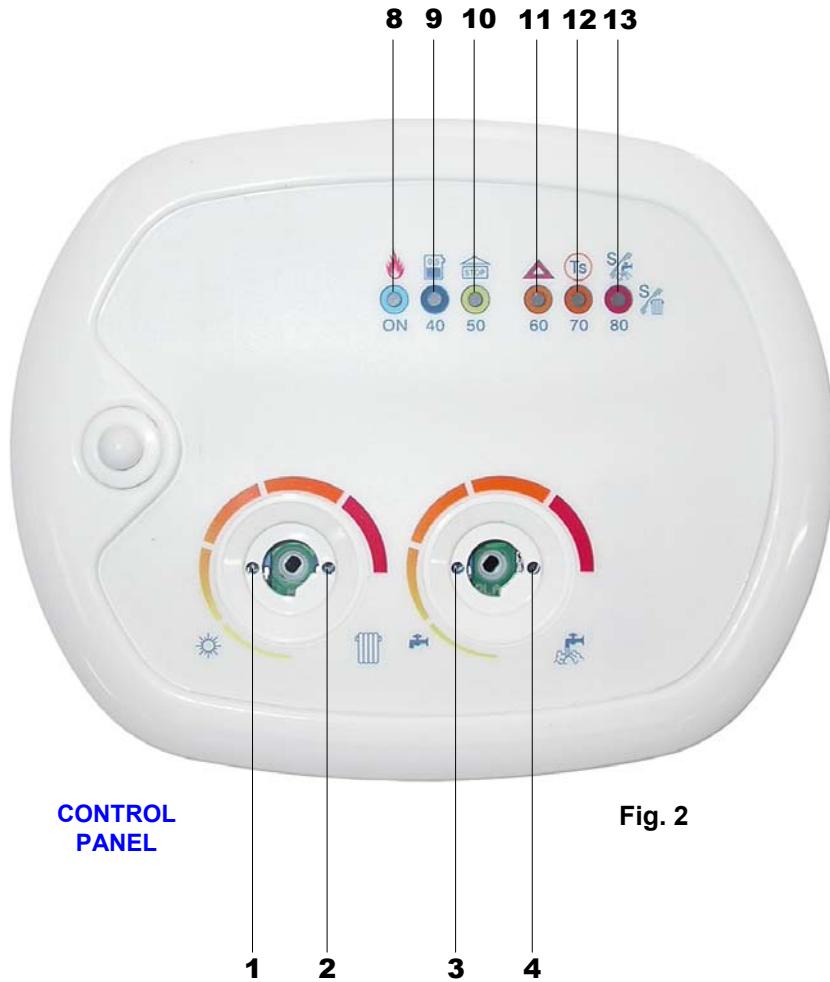

Fig. 2
- Use a $\varnothing 2.5 \div 3$ mm cross-type screwdriver and turn “maxR” **1** potentiometer (fig. 2) clockwise to the maximum;
- Keep **4** potentiometer (chimney sweeper function) (fig. 2) pressed for 10 seconds;
- Turn “maxR” **1** potentiometer (fig. 2) counter clockwise to the minimum;
- Turn **2** potentiometer (minimum gas) (fig. 2) clockwise to increase or counter clockwise to decrease the gas pressure;
- Turn **3** potentiometer (starting step) (fig. 2) to the middle position of its full setting;
- Turn the “maxR” **1** potentiometer (maximum heating) (fig. 2) clockwise and set the pressure value according to the system requirement. (see Heating Output Pressure Diagram at page 6);
In case of a ‘Flame Lock-out’ (indicator **11** or **12** fig. 2 page 3), reset the boiler by putting the ON/OFF button in OFF and then ON position.